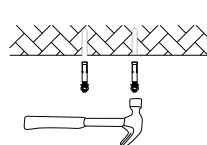

Figure 2
2. Use a hammer to put the expansion screws into the holes (Figure 2).